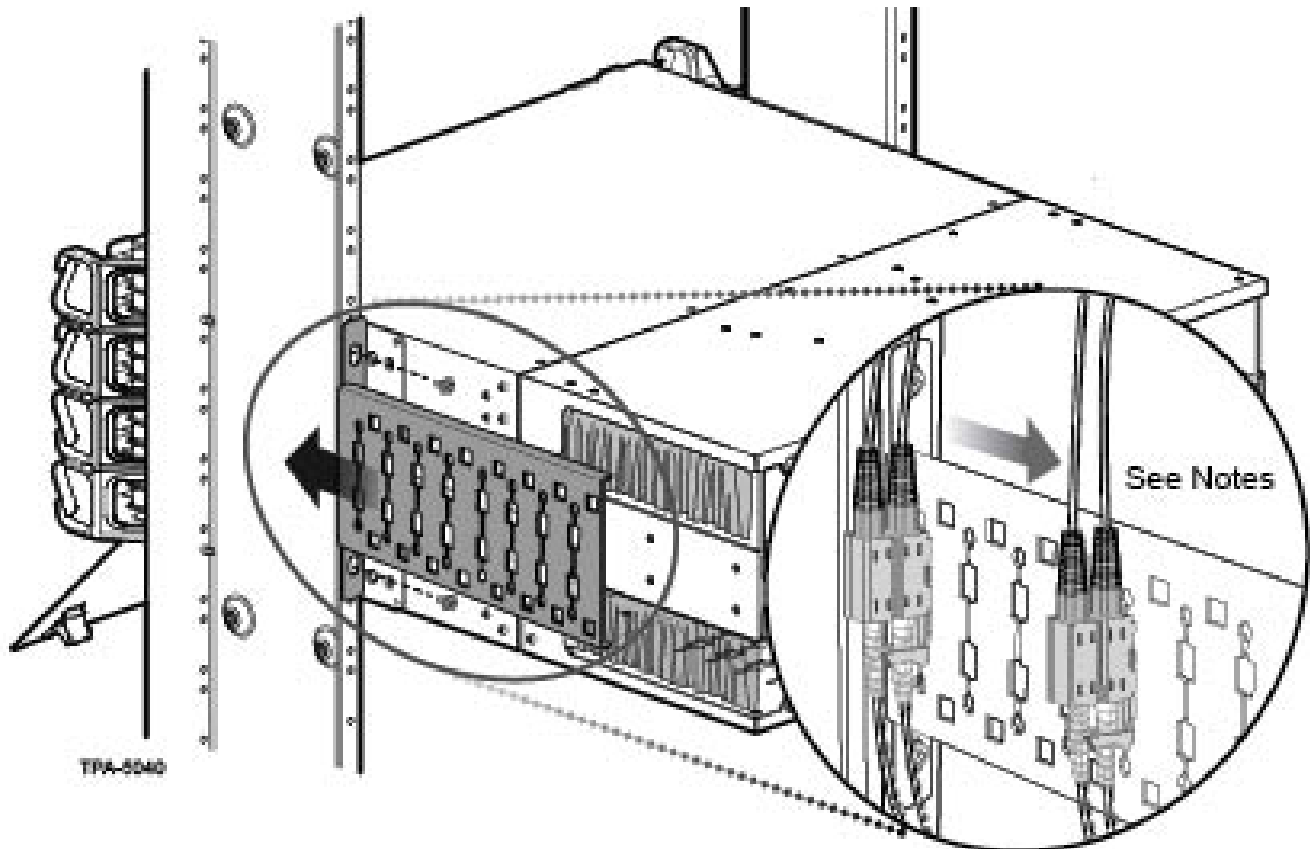

Figure 11 — Install CDF Bracket
**Step 2:** Install bracket using two 12-24 screws (Figure 11). Allow enough clearance when routing trunks from the bracket into the housing to ensure bend radius is maintained when trunks enter the housing.
**Step 3:** Insert furcation plug into cradle as seen in Figure 12 or Figure 13 and mount cradle onto CDF bracket (Figure 11).